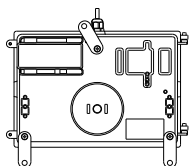

Figure 1
1. Rotate 3 mounting kits to the proper angle. (Figure 1)